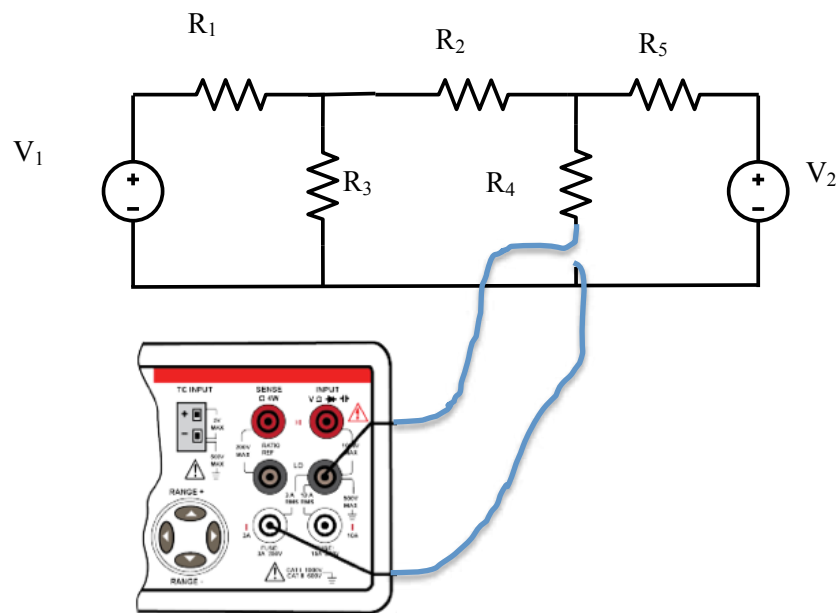

Fig. L1.3 Current measurement
5. Measure the currents flowing through  $R_4$  by inserting multi-meter as shown in Fig. L1.3. Comments on the measured and calculated results.